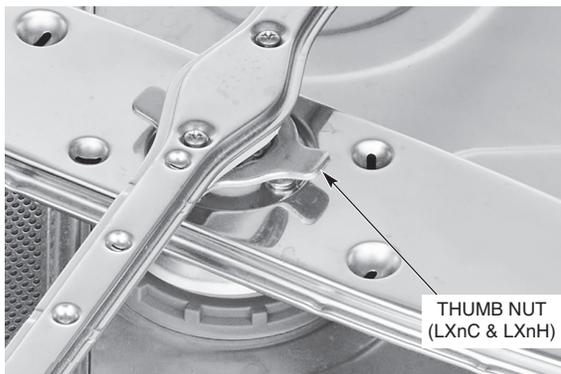
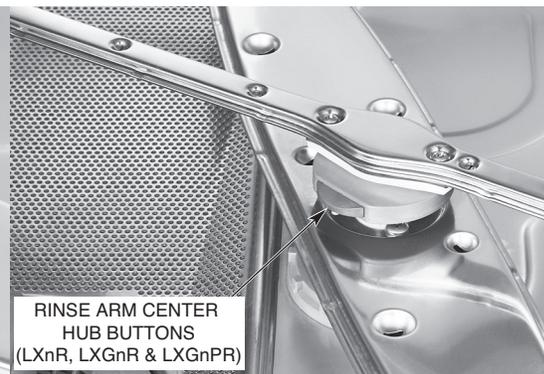

Fig. 6
Fig. 7
Ensure both upper and lower wash and rinse arms are properly installed. **NOTE:** The LXnC and LXnH models have rinse arms that screw in by turning the thumb nut (Fig. 6). The LXnR, LXGnR and LXGnPR models have rinse arms with quick release buttons located on the center hub (Fig. 7). When installed properly, all arms should turn freely and continue turning for a few seconds after being rotated by hand.
4. On LXnC and LXnH models, remove the upper and lower wash and rinse arms by unscrewing the thumb nuts (page 17, Fig. 6). On LXnR, LXGnR and LXGnPR models, remove the upper and lower wash and rinse arms by pressing in on the buttons located on the sides of the center hub and pull off (page 17, Fig. 7). Thoroughly wash and rinse the arms in a sink and ensure all debris is removed from the wash and rinse arm nozzles.
To remove the lower wash arm on the LXnC and LXnH models, unscrew the thumb nut and lift the rinse arm off (page 17, Fig. 6). The wash arm can be lifted off once the rinse arm is removed. The upper wash and rinse arms are removed by unscrewing the thumb nut and lowering both arms together. Be careful not to drop the arms.
To remove the lower wash arm on the LXnR, LXGnR and LXGnPR models, press in on the buttons located on the sides of the center hub and lift the rinse arm off (page 17, Fig. 7). The wash arm can be lifted off once the rinse arm is removed. The upper wash and rinse arms are removed by pressing in on the buttons located on the sides of the center hub and lowering both arms together. Be careful not to drop the arms.